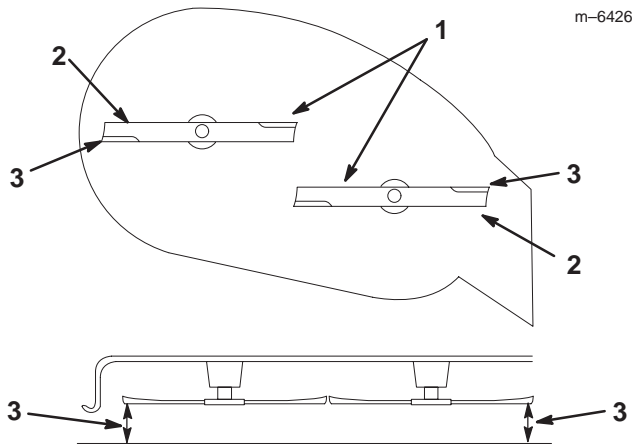

Figure 37
- Carefully rotate the blade(s) side to side (Fig. 37). Measure between the outside cutting edges and the flat surface (Fig. 37). If both measurements are not within 3/16 inch (5 mm), an adjustment is required; refer to steps 6 through 8.